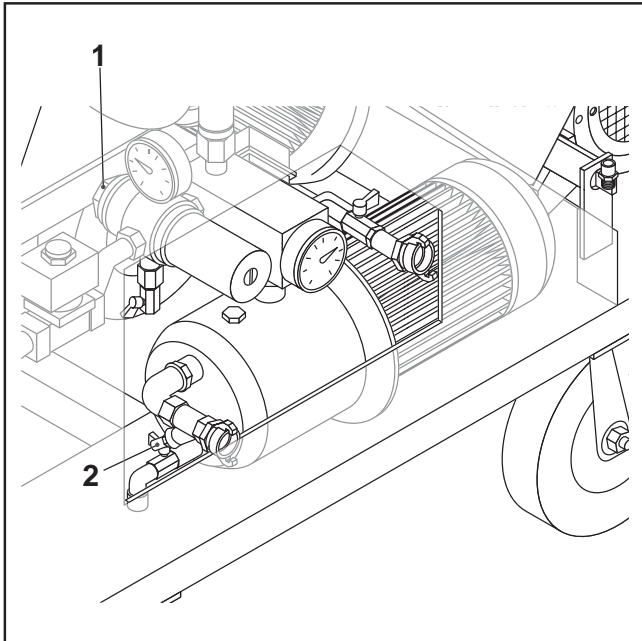

FIG.38
- Check that the water filter (FIG.38-REF.2) is clean.